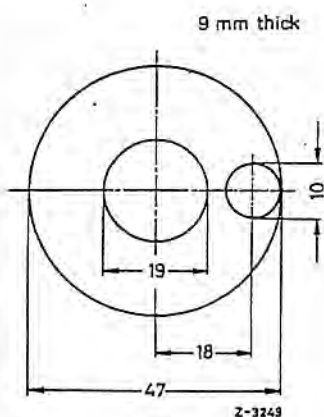

Fig. 05-18/2
Make a disk with the dimensions shown in Fig. 05-18/2. This disk corresponds in thickness to the Vee-pulley.
6. Remove cylinder head cover and chain guides (7 and 9) (see Section C and Fig. 05-18/1).